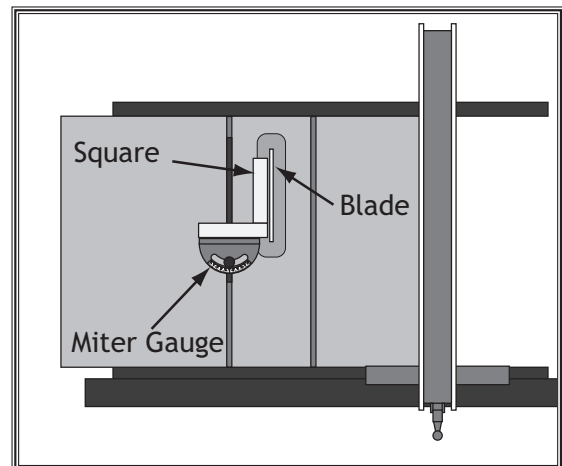

Figure 109. Checking 90° stop on miter gauge.
4. Place the 90° square evenly against the face of the miter gauge and the blade, as shown in **Figure 109**.